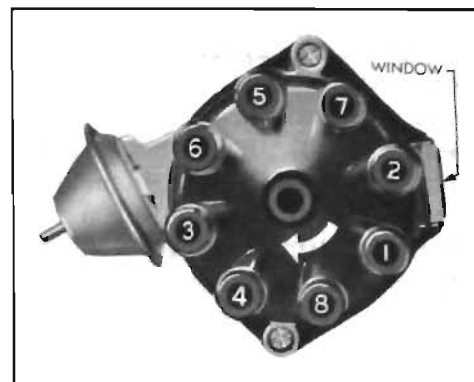

Figure 10-43—Installing Spark Plug Wires in Cap (V-8 Engine)
5. Install distributor cap. Make sure that spark plug wires are correctly installed in distributor cap, through clips on rocker arm covers, and on spark plugs. See Figures 10-43 or 44.
No. 1 spark plug wire is installed in the first distributor cap tower after the adjusting window, moving in the direction of rotation. The other wires are then installed in a clockwise direction according to the firing order. See Figure 10-43 for V-8 engines or Figure 10-44 for V-6 engines.